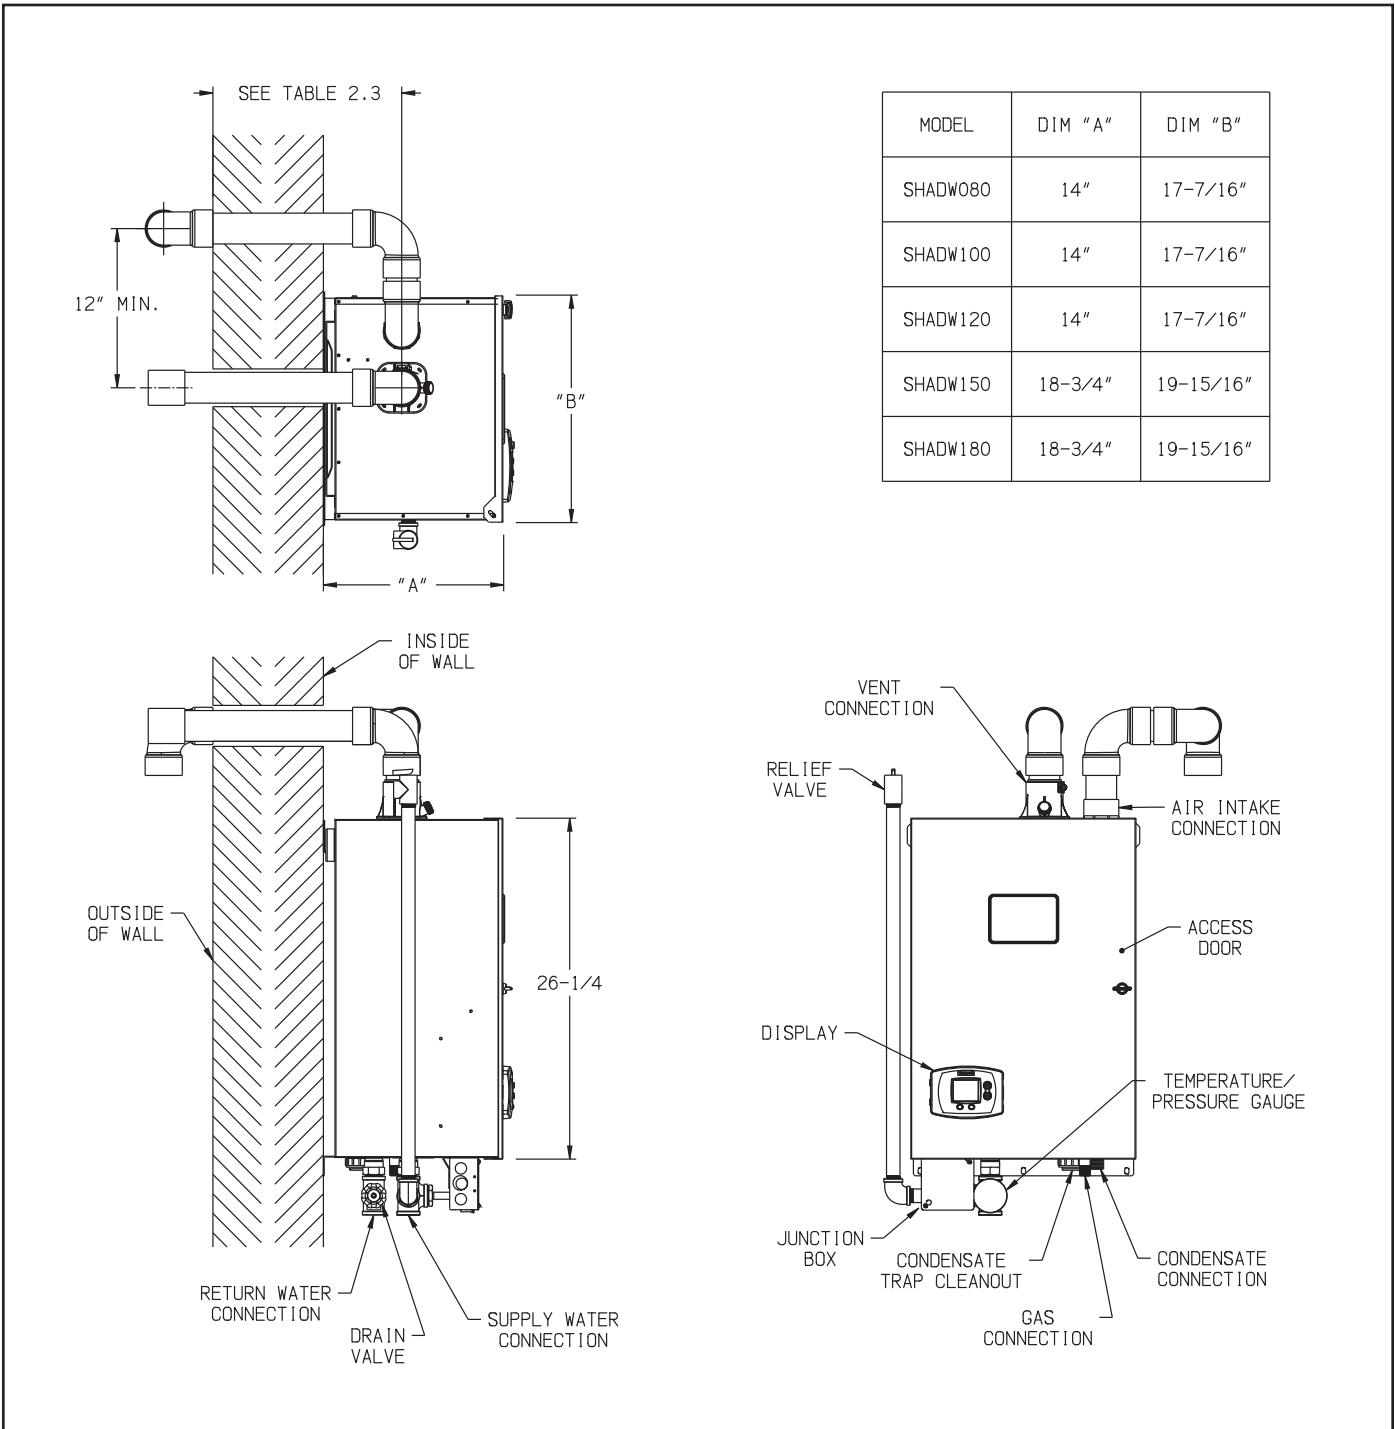

FIGURE 2.1: GENERAL CONFIGURATION
- 4) The relief valve and gauge must be installed in the location shown in Figure 2.1 and must be in the same space as the boiler.